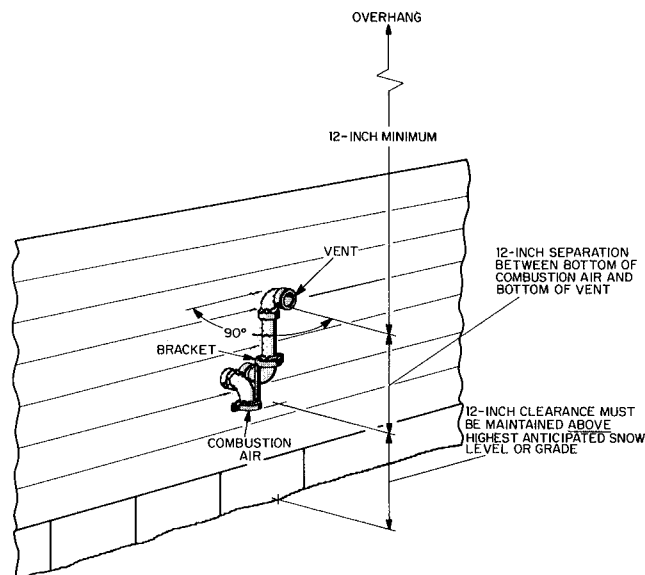
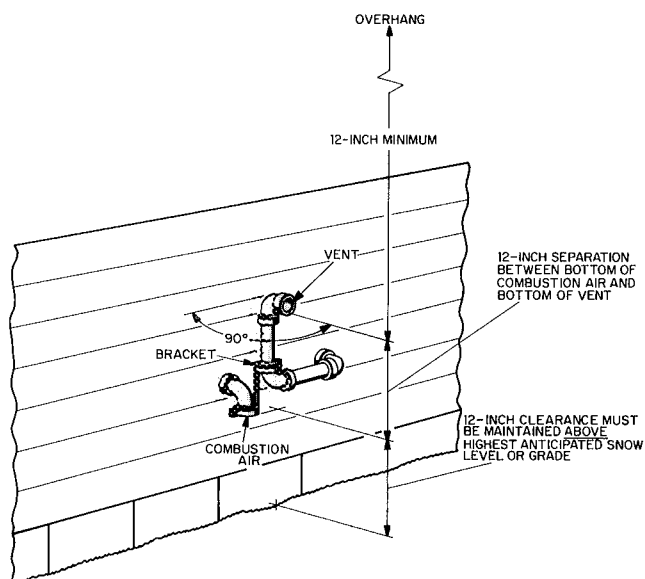

Fig. 4 — Sidewall Termination Above Snow Level or Grade (Preferred)
Fig. 5 — Sidewall Termination Above Snow Level or Grade (Option)
SIDEWALL VENT TERMINAL INSTALLATION — Install kit as follows when combustion-air and vent pipes exit through sidewall 12 in. or more above highest anticipated snow level or grade. See Fig. 4 and 5.
NOTE. The arrangement in Fig. 4 is preferred. The arrangement in Fig. 5 is an option for the vent pipe only.
3. Install elbows as shown in Fig. 4 or 5. Clean them and apply cement using procedures described in Combustion-Air and Vent Piping.
4. Install bracket as shown in Fig. 4 or 5.
5. Position vent-pipe assembly, maintaining a 12-in. separation between vent-pipe outlet and combustion-air inlet. Cement vent pipe in elbow as shown in Fig. 4 or 5.
6. For applications using vent-pipe option shown in Fig. 5, rotate elbow 90 degrees from position shown in Fig. 4.